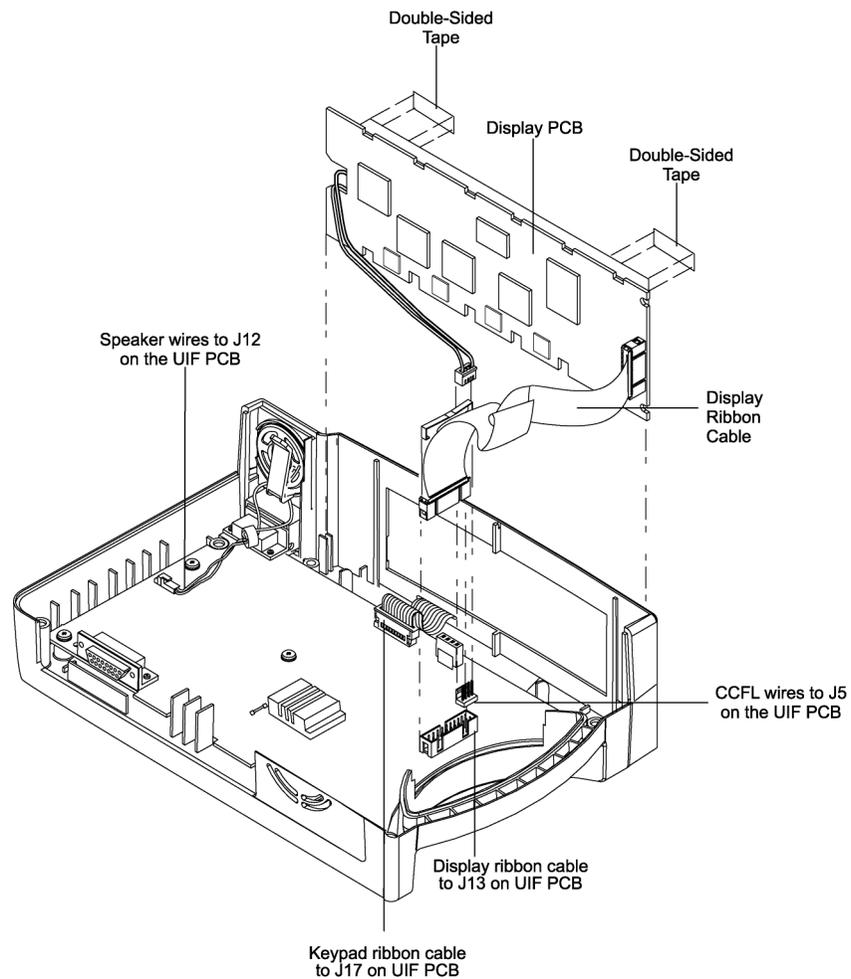

Figure 11: Display PCB
2. Disconnect the CCFL harness from J5 of the User Interface PCB. See Figure 11.
6. Install new double-sided tape as shown in Figure 11.
2. Disconnect the CCFL harness (two white wires) from J5 of the User Interface PCB. See Figure 11.
4. Disconnect the keypad ribbon cable from connector J17 on the User Interface PCB (Figure 11). Lift up on the ribbon cable's outer shell until it clicks, then remove the cable from the connector.
10. Lift up on the outer shell of J17 (Figure 11) on the User Interface PCB until it clicks. Insert the keypad ribbon cable into J9 of the User Interface PCB. Slide the outer shell of J17 down until it locks in place.